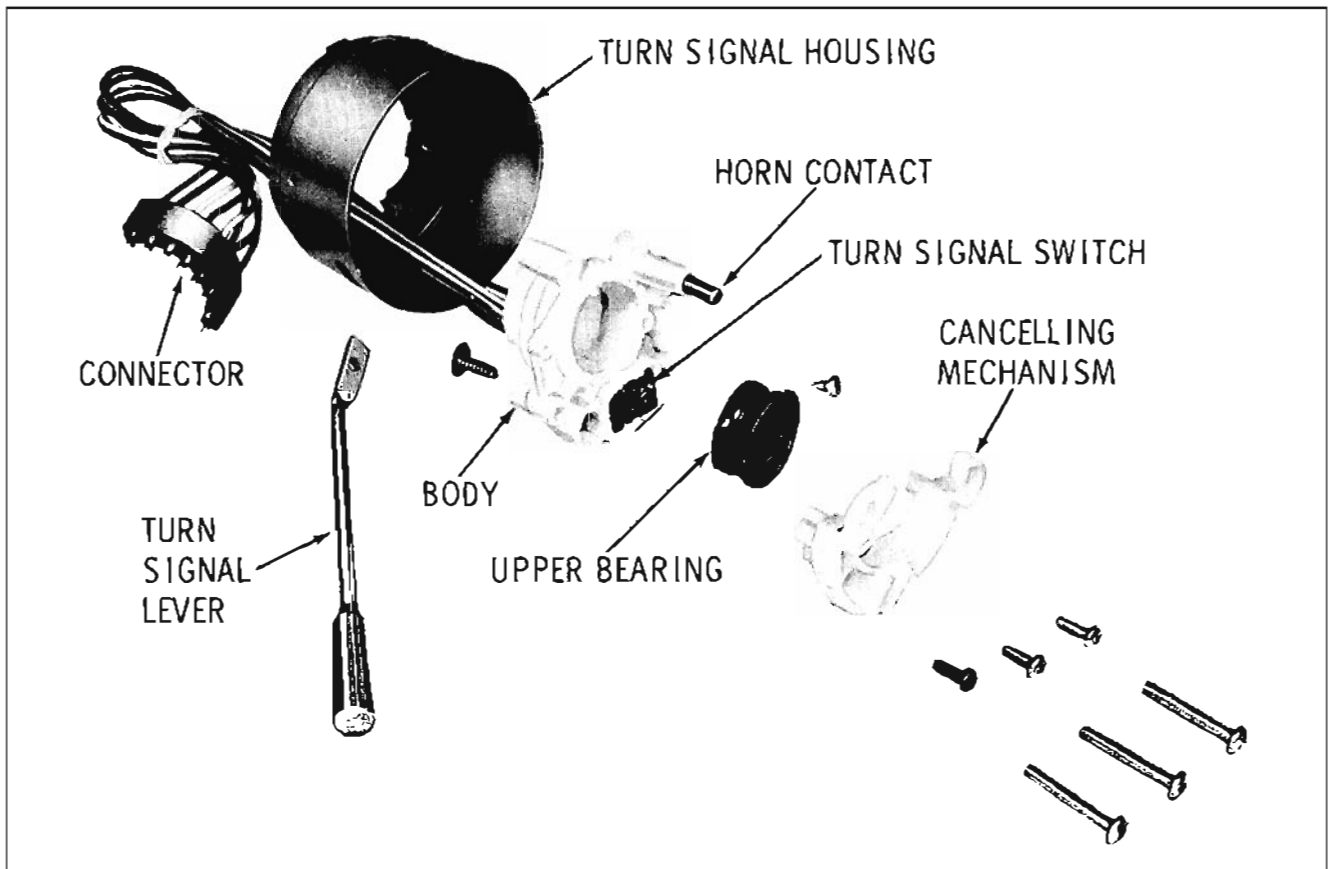

Fig. 8-85 Turn Signal Switch Disassembled (30 - 31 & 32 Series)
7. On cars equipped with automatic transmission, the bearing, actuator, and turn signal contacts can be disassembled. (Fig. 8-85)